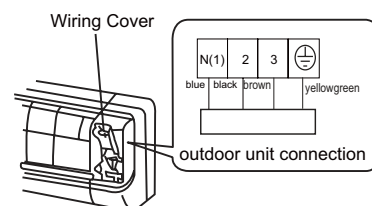

Fig.2
3. Connect and fix the power connection cord to the terminal board. (As shown in Fig.2)